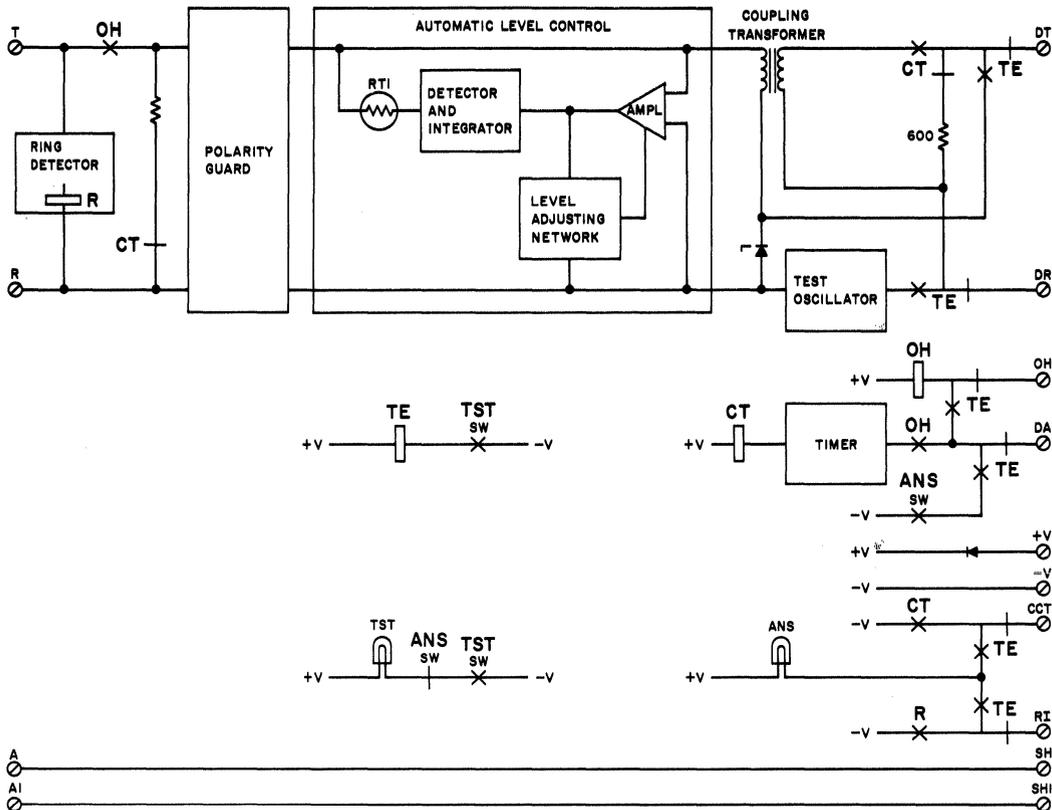

Fig. 6—Functional Schematic of 1001B Data Coupler—Test Mode
**2.19** The data coupler test circuit provides the means for applying a test tone to the line through the ALC circuit (Fig. 6). This permits testing the level control, the local loop, and certain control functions of the coupler. The circuit is designed to be remotely tested from the local test desk (LTD), although a data test center (DTC) or other designated test location may perform the test.